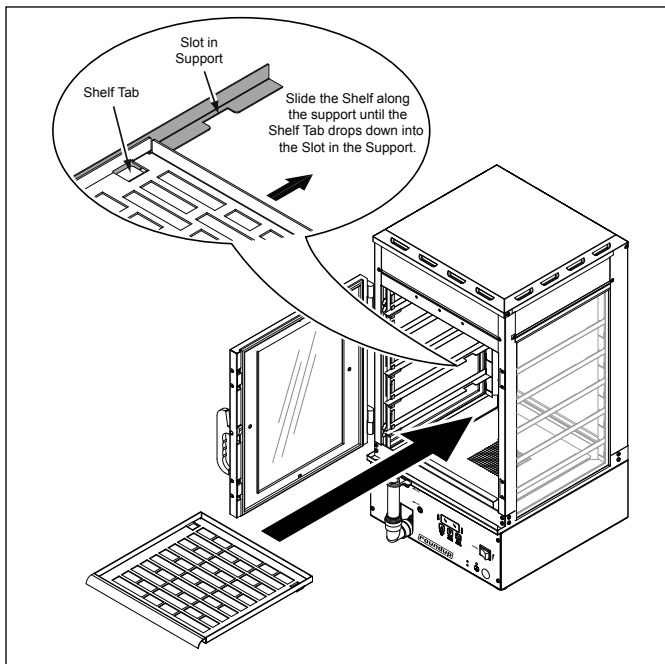

Figure 4. Installing Shelf
1. Open the front door and insert the Shelf onto the desired Support Racks (Figure 4).